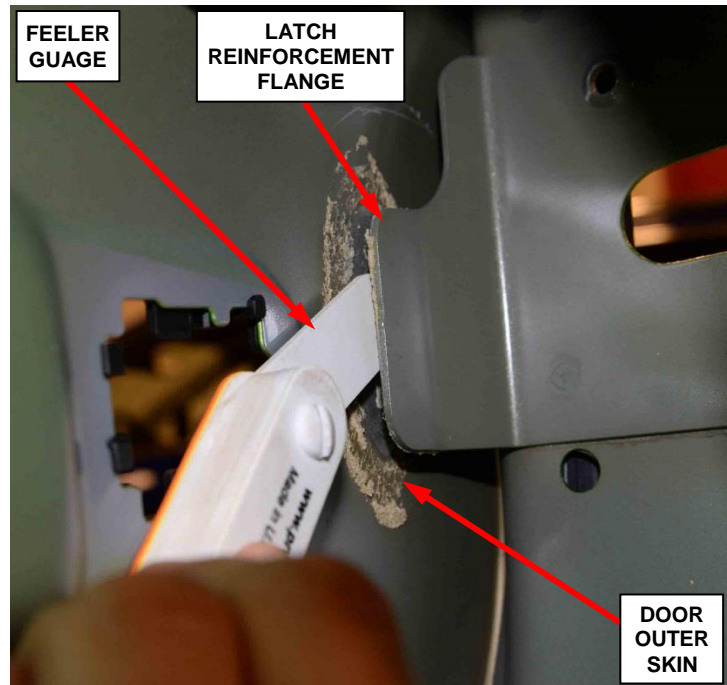

Figure 24 – Measure Between Latch Reinforcement Flange and Door Skin
40. Using feeler gauges, measure the gap between the latch reinforcement flange and door skin. (Figure 24).
52. Remove the tape from the door latch opening (Figure 24).